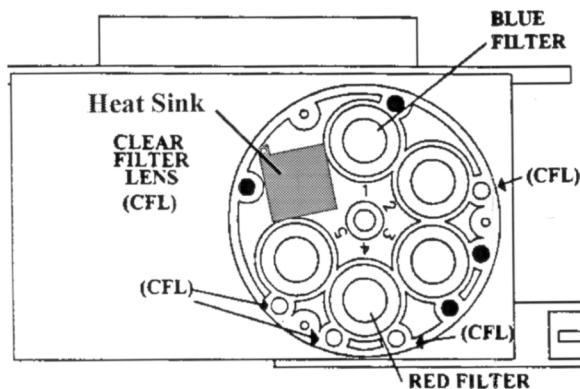

Figure 5-11. Optics Filter Wheel Assy., End View
7. Identify the Blue and Red Filters. (See **Figure 5-11**, Optics Filter Wheel Assembly, End View.)
12. Wipe away dust and grime from the four, in-place clear filter lenses (CFL) also. (See **Figure 5-11**.)